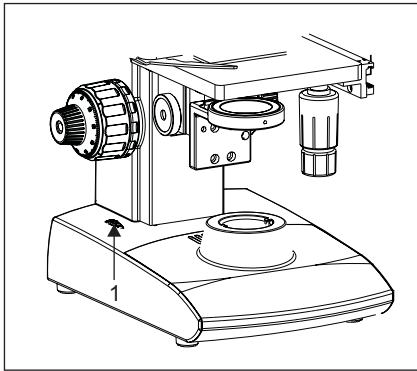

Fig. 15
2. Rotating the light intensity adjustment knob (fig. 15) increases brightness and rotating it in the opposite direction decreases brightness. The indicator around the knob indicate the intensity lever.